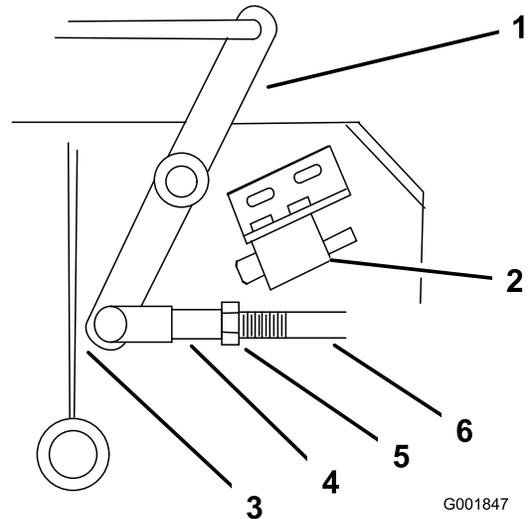

Figure 41
- Adjust the linkage length to where the lower end of the bellcrank just clears the axle support gusset (Figure 41).
9. Loosen the nut against the yoke (Figure 41).